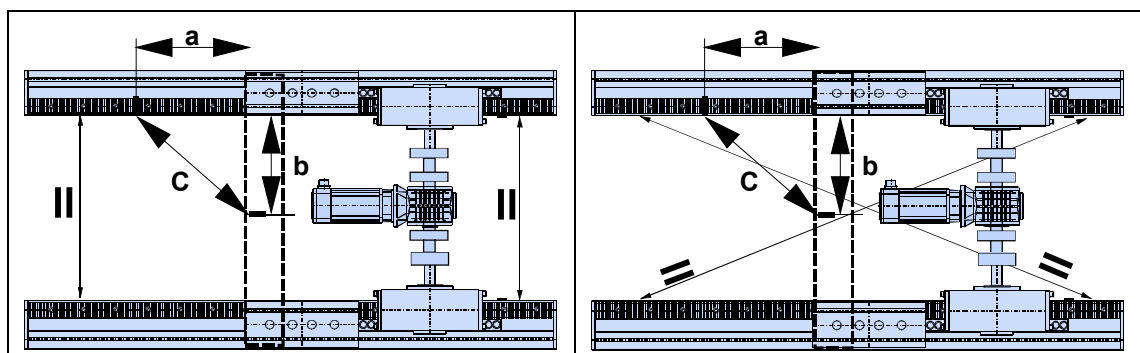

Fig. 3-1: Alignment of a double-axis actuator
5. Verify parallelism (measuring tape) [see figure 3-1 below].
6. Measure both diagonals in order to verify rectangularity (measuring tape) [see figure 3-1 below]. Correct diagonal measure by parallel movement of the second linear actuator, if necessary.
7. Verify the horizontal alignment of the actuators (water level, levelling device) and correct if needs be. The orthogonal alignment of the actuators can also be determined with the aid of the Theorem of Pythagoras $a^2 + b^2 = c^2$ if the distances are very large. The theoretical length c must then be measured and set. [Figure 3-1 left] and [figure 3-1 right].